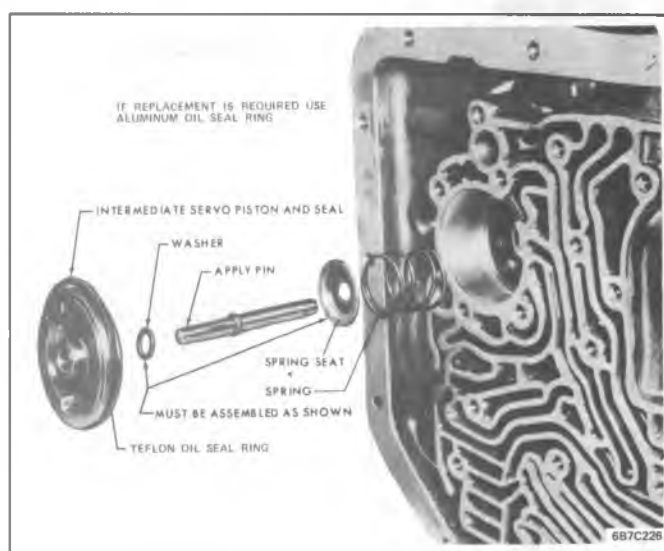

Figure 350C-146 Intermediate Servo Assembly - Exploded View
3. Install 5 check balls into correct transmission case pockets. See Figure 350C-146A. If number one (1) check ball is omitted or incorrectly placed, transmission failure will result due to minimum line pressure.
4. Install oil pump pressure screen in the oil pump pressure hole in case. Open end of screen must be installed toward case face. See Figure 350C-149. (*Clean before installing*).